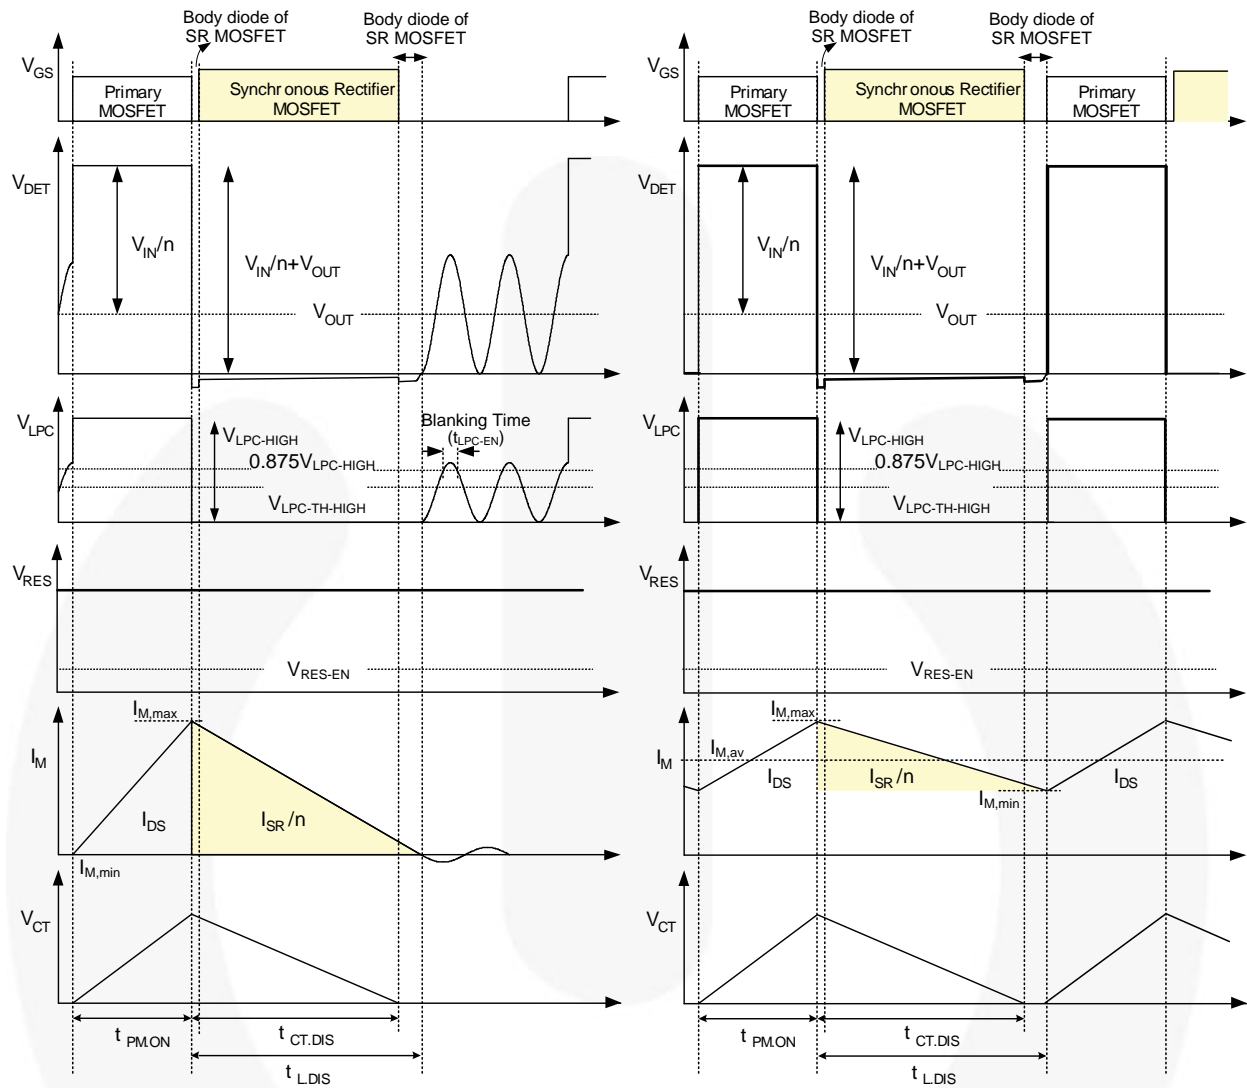
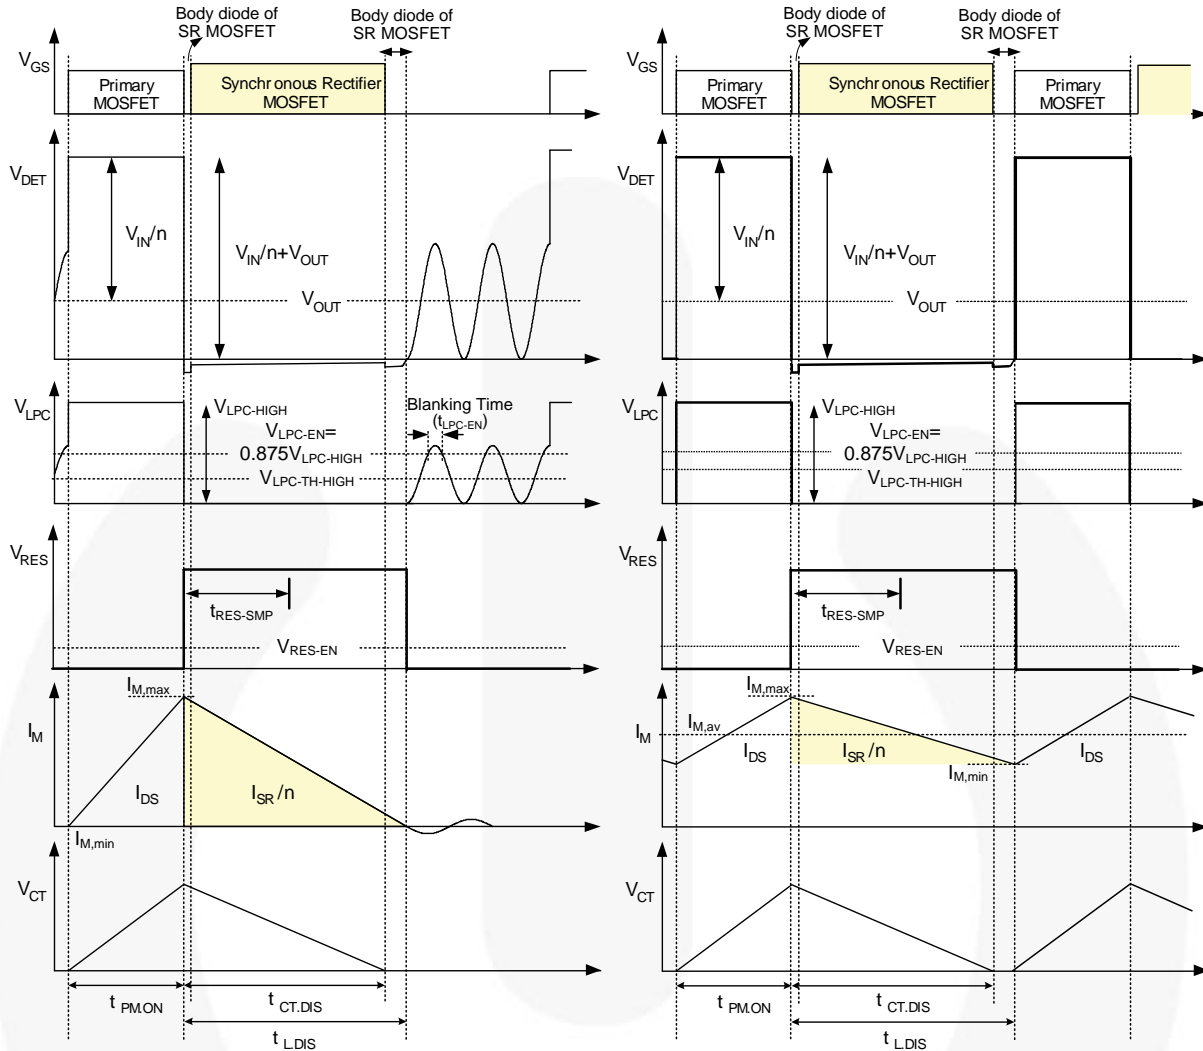
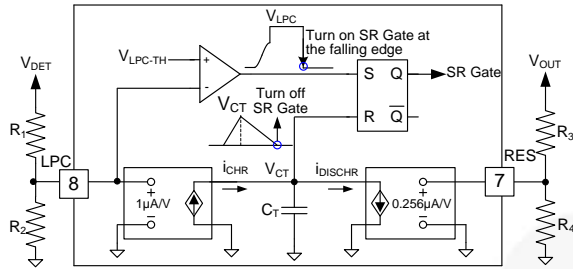

Figure 25. Waveforms of Linear-Predict Timing Control in CCM and DCM / QR Flyback for Low-Side Application
Figure 26. Waveforms of Linear-Predict Timing Control in CCM and DCM / QR Flyback for High-Side Application
Figure 27. Simplified Linear-Predict Block
The SR MOSFET turn-off timing is determined by linear-predict timing control and the operation principle is based on the volt-second balance theorem, which states: the inductor average voltage is zero during a switching period in steady state, so the charge voltage and charge time product is equal to the discharge voltage and discharge time product. In flyback converters, the charge voltage on the magnetizing inductor is input voltage (V_{IN}), while the discharge voltage is reflected output voltage (nV_{OUT}), as the typical waveforms show in Figure 25. The following equation can be drawn:
FAN6224 uses the LPC and RES pins with two sets of voltage dividers to sense DET voltage (V_{DET}) and output voltage (V_{OUT}), respectively; so V_{IN}/n , $t_{PM,ON}$, and V_{OUT} can be obtained. As a result, $t_{L,DIS}$, which is the on-time of SR MOSFET, can be predicted by Equation 1. As shown in Figure 25, the SR MOSFET is turned on when the SR MOSFET body diode starts conducting and DET voltage drops to zero. The SR MOSFET is turned off by linear-predict timing control.
The linear-predict timing-control circuit generates a replica (V_{CT}) of the magnetizing current of the flyback transformer using an internal timing capacitor (C_T), as shown in Figure 27. Using the internal capacitor voltage, the inductor discharge time ($t_{L,DIS}$) can be detected indirectly, as shown in Figure 25. When C_T is discharged to zero, the SR controller turns off the SR MOSFET.
Referring to Figure 25, when LPC voltage is higher than V_{LPC-EN} over a period of blanking time (t_{LPC-EN}) and lower than $V_{LPC-TH-HIGH}$ (1.22 V), then SR MOSFET can be triggered. Therefore, V_{LPC-EN} must be larger than $V_{LPC-TH-HIGH}$ or the SR MOSFET cannot be turned on. As a result, when designing the voltage divider of the LPC, considering the tolerance, R_1 and R_2 should satisfy the equation:
For high-side applications, as shown in Figure 2, an extra auxiliary winding (N_3) is used to supply voltage for controller. To detect output voltage, the RES pin is connected to the auxiliary winding through a set of voltage dividers. As Figure 26 shows, V_{RES} is proportional to V_{OUT} when SR MOSFET or its body diode conducts. Therefore, information of V_{OUT} is sampled at $t_{RES-SMP}$ after the primary-side MOSFET turns off. As a result, Equation (4) can be rewritten as:
The typical waveforms of CCM operation in steady state are shown as right side of Figure 25 and Figure 26. When the primary-side MOSFET is turned on, the energy is stored in L_m . During the on-time of the primary-side MOSFET ($t_{PM,ON}$), the magnetizing current (I_M) increases linearly from $I_{M,min}$ to $I_{M,max}$. Meanwhile, internal timing capacitor (C_T) is charged by current source ($i_{CHR-IDCHR}$) proportional to V_{IN} , so V_{CT} also increases linearly.
In DCM / QR operation, when primary-side MOSFET is turned off, the energy stored in L_m is fully released to the output at the turn-off timing of primary-side MOSFET. Therefore, the DET voltage continues resonating until the primary-side MOSFET is turned on, as depicted in Figure 25. While DET voltage is resonating, DET voltage and LPC voltage drop to zero by resonance, which can trigger the turn-on of the SR MOSFET. To prevent fault triggering of the SR MOSFET in DCM operation, a blanking time is introduced to LPC voltage. The SR MOSFET is not turned on even when LPC voltage drops below $V_{LPC-TH-HIGH}$ unless LPC voltage stays above $0.875 V_{LPC-HIGH}$ longer than the blanking time (t_{LPC-EN}). The turn-on timing of the SR MOSFET is inhibited by gate inhibit time ($t_{INHIBIT}$), once the SR MOSFET turns off, to prevent fault triggering.